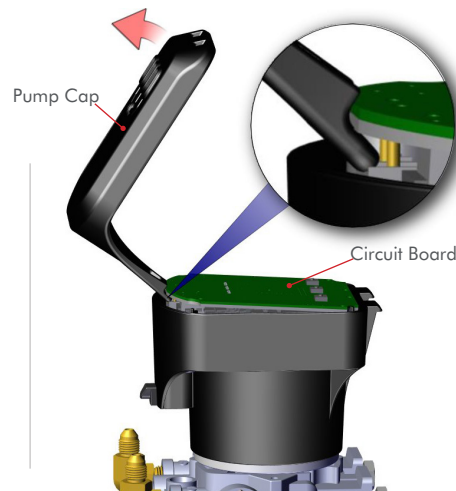

Figure 3
STEP 4: Using the **Pump Cap**, pry the front of the **Circuit Board** up and remove it. **FIG 3**